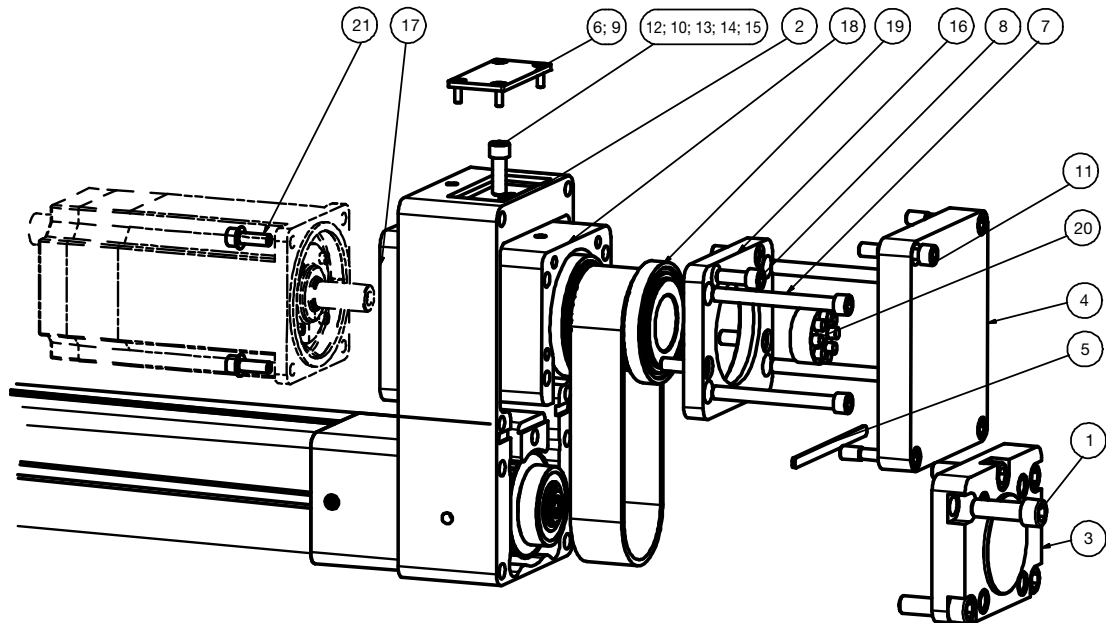

Figure 3 Exchanging the toothed belt (ETH100&125)
- ◆ Slightly loosen 4 screws ((Figure 3 Pos.7) by 1 or 2 turns.
- ◆ Loosen central toothed belt tensing screw (Figure 3 Pos.12). The drive unit must lower slightly when the tensing screw is loosened.
- ◆ Loosen tightening screw (Figure 3 Pos.12) until the drive unit is not lowered any further.
- ◆ Loosen 5 screws (Figure 3 Pos.1) and remove lid (Figure 3 Pos.3). If the lid cannot be removed easily, try to remove it with a slightly pivoting movement.
- ◆ Remove middle bar (Figure 3 Pos.5) with seal.
- ◆ Loosen 4 screws (Figure 3 Pos.8) of the upper bearing flange (Figure 3 Pos.16) (don't remove them completely).
- ◆ Loosen 4 screws (Figure 3 Pos.7) and remove motor flange (Figure 3 Pos.17).
- ◆ Loosen and remove completely central toothed belt tensing screw (Figure 3 Pos.12)
- ◆ **ATTENTION!** Secure upper bearing unit (Figure 3 Pos.18) against falling.
- ◆ Remove upper bearing unit (Figure 3 Pos.18) with toothed belt.
- ◆ Loosen four screws (Figure 3 Pos.8) of the upper bearing flange (Figure 3 Pos.16) and remove bearing flange from bearing (Figure 3 Pos.19).
- ◆ Remove hollow shaft with the two bearings (Figure 3 Pos.19) from the bearing housing (Figure 3 Pos.18).
- ◆ (Figure 3 Pos.2,3 and 4) must be sealed with Atomsit.
- ◆ Re-seal middle bar (Figure 3 Pos.5) with the seal or with Atomsit.